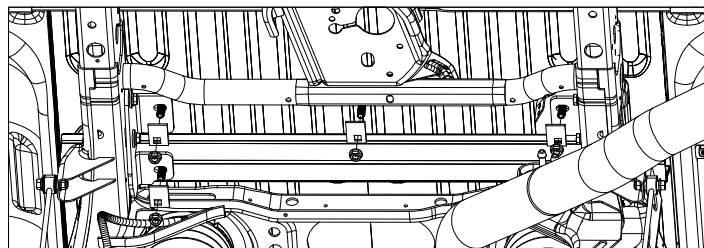

Figure D8: View looking up at the bottom of the truck bed.
- 9. Fasten the rear mounting rail.** Install an offset square hole washer and 1/2" flange nut on each of the carriage bolts passing down through the bed, as shown in Figure D8. Do not tighten at this time.